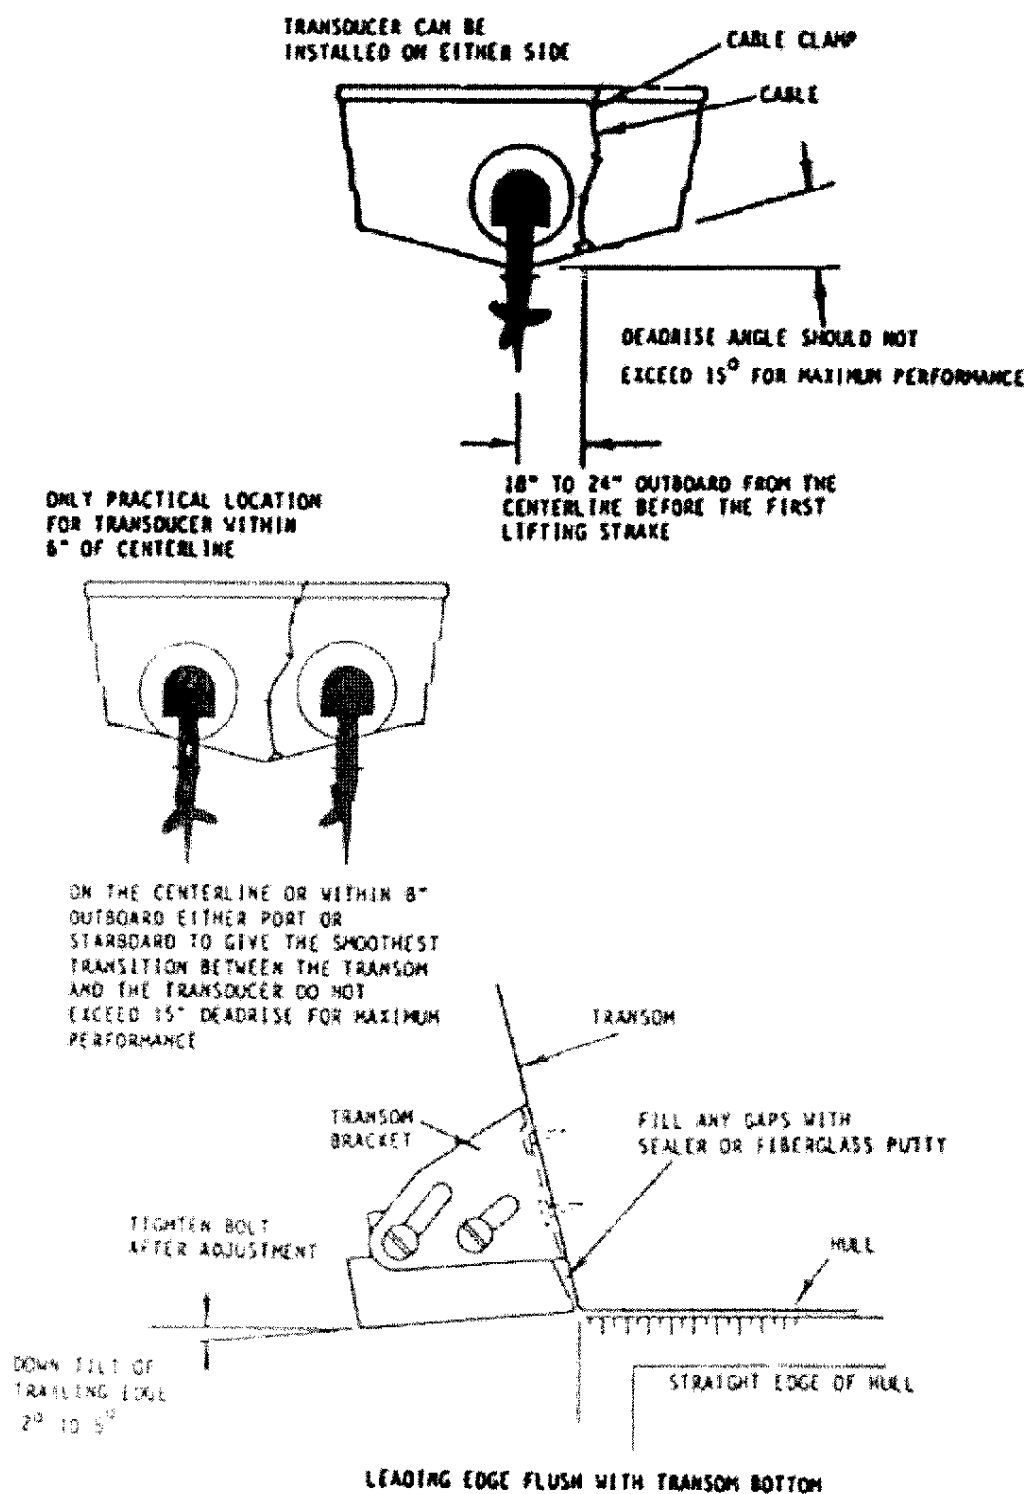

Figure 5 Transducer and Cable Mounting
3. Position transducer per Figure 5 and tighten nuts and screws.